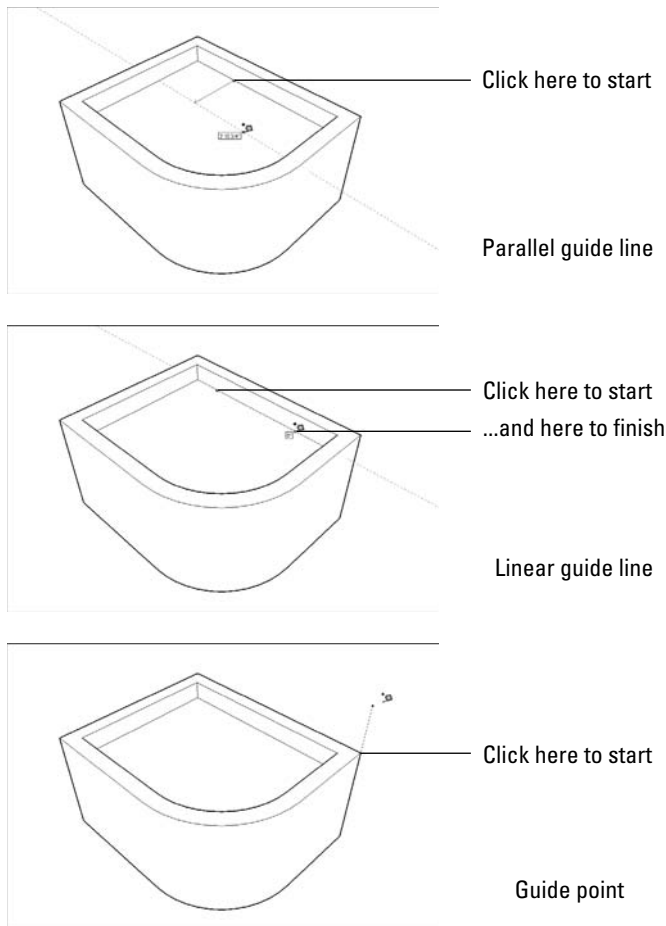

Figure 2-26:
You can create three different kinds of guides, and you use the Tape Measure tool to make all of them. (See Figure 2-26.)
- ✔ **Parallel guide lines:** Clicking anywhere (except the endpoints or midpoint) along an edge with the Tape Measure tells SketchUp that you want to create a guide parallel to that edge. (See Figure 2-26.) Just move your mouse and you'll see a parallel, dashed line; click again to place it wherever you want.